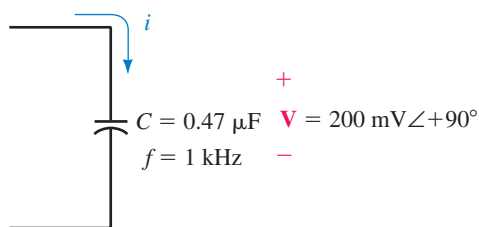

FIGURE 18-83
8. For the component shown in Figure 18-83: